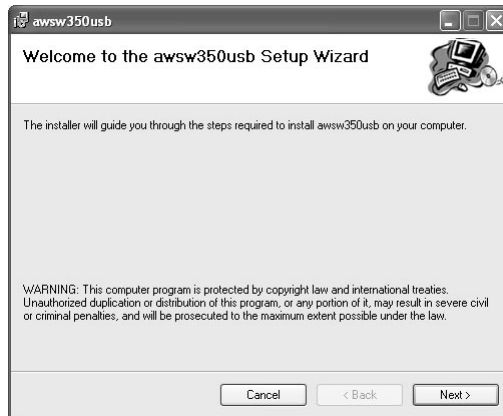

Fig.7 Application programme installer start screen
- 5** The installer programme shown in Fig.7 now starts. Proceed with the installation by following the installer instructions.